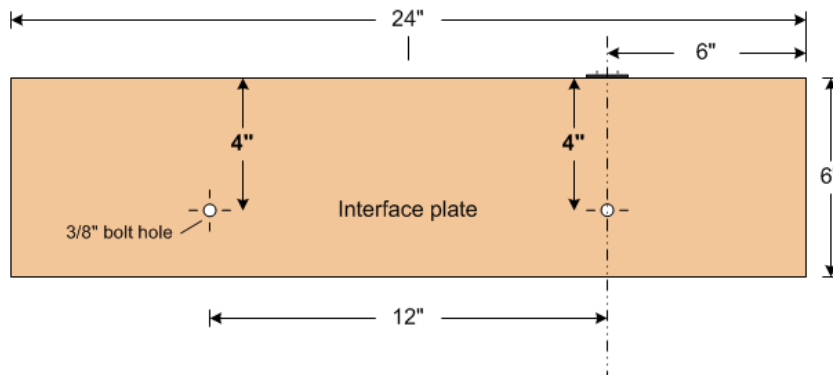

Figure 1
There are just a few key physical specifications used with our modules. As mentioned in the overview, the focus is on connectivity. The first of these specifications is for the module-to-module physical interface. The width of a module's interface is 24 inches with a height of 6 inches. The lower 4 inches is the area where the physical union between modules is created. Bolt holes are provided to join modules with bolts. Clamps could also be used. The other key physical parameter is table height which is 48" above the floor. Figure 1 shows the design of the interface plate.
Mounting holes – Interface plate must have 3/8 inch holes placed as shown in figure 1. These holes are used with 2 inch by 1/4 inch *standard bolts* to physically connect modules. 5/16 inch bolts and carriage bolts should *not* be used because they impair the adjustability between modules.
The modules utilize a single track at the interface. As can be seen in figure 1, the track is placed asymmetrically at the interface. This asymmetric design affords space for terrain and/or structures on the most basic straight-through rectangular modules. On more complex modules, this facilitates placement of passing sidings, spurs, yards, etc. The reference track products used for the modules are Peco's On30 flex track and turnouts. These products use code 100 rail and measure 3/16ths of an inch from the underside of the ties to the top of the rail. Using Peco products is not a requirement but adhering to the overall tie/rail height and code 100 rail between modules is needed to ensure smooth operation.
- Track centerline must be 6 inches in from one edge of the interface (excluding fascia material, see Figure 1)